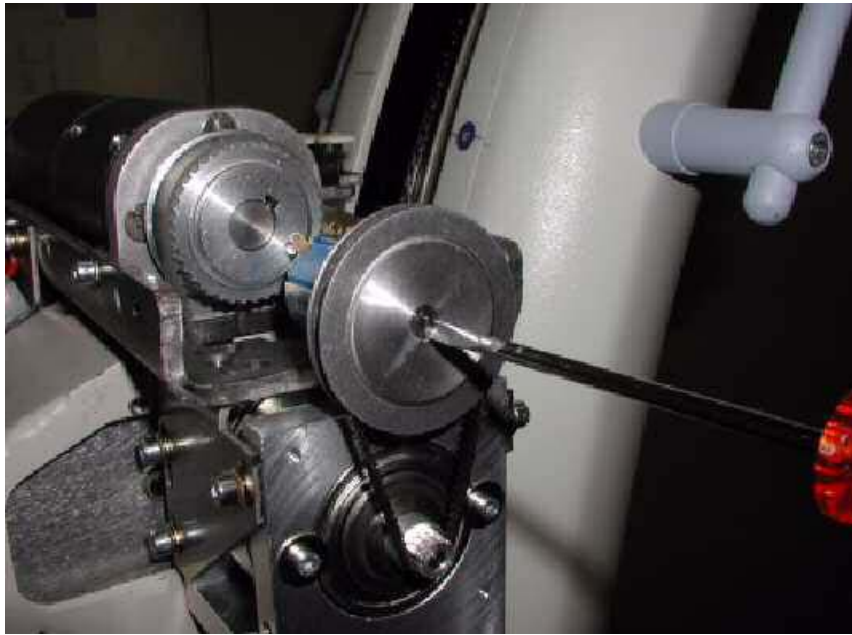

Fig. 35: Potentiometer
- Use a screwdriver to turn the potentiometer counterclockwise into the end position (Fig. 35 / p. 37).